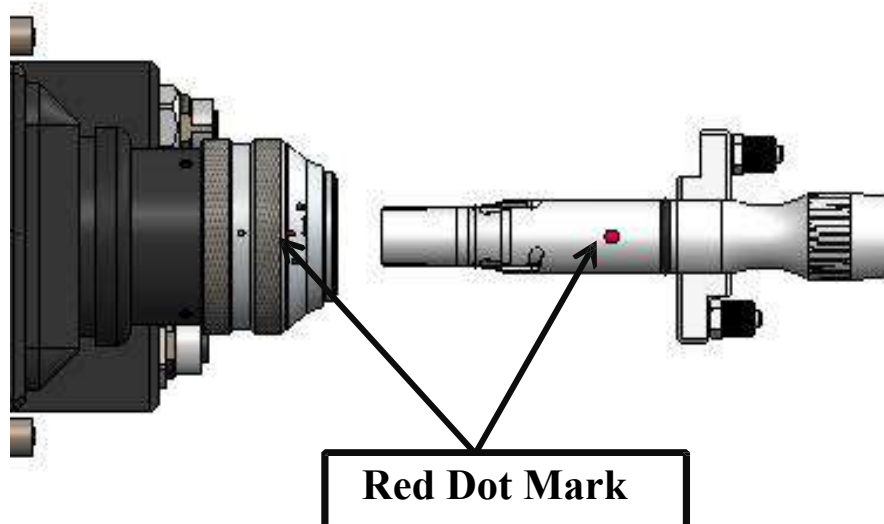

Figure 1.9
- ④ Align the red dot on the fiber head with the red dot on the QBH connector, and slowly insert the fiber head into the QBH connector, as shown in Figure 1.9: